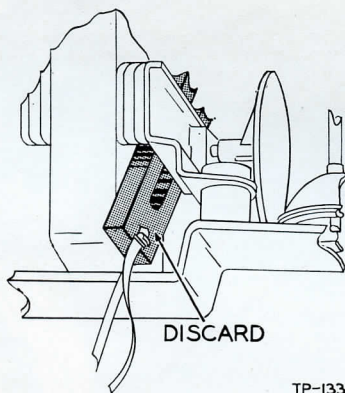

FIGURE 2. FIBRE WEDGE ON MOTOR
1. Remove the fibre wedge from the drive end of the motor between the end of the armature and the bearing support. See figure 2.